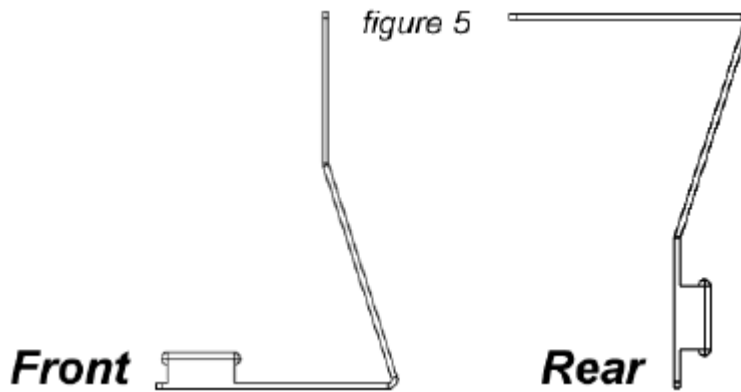
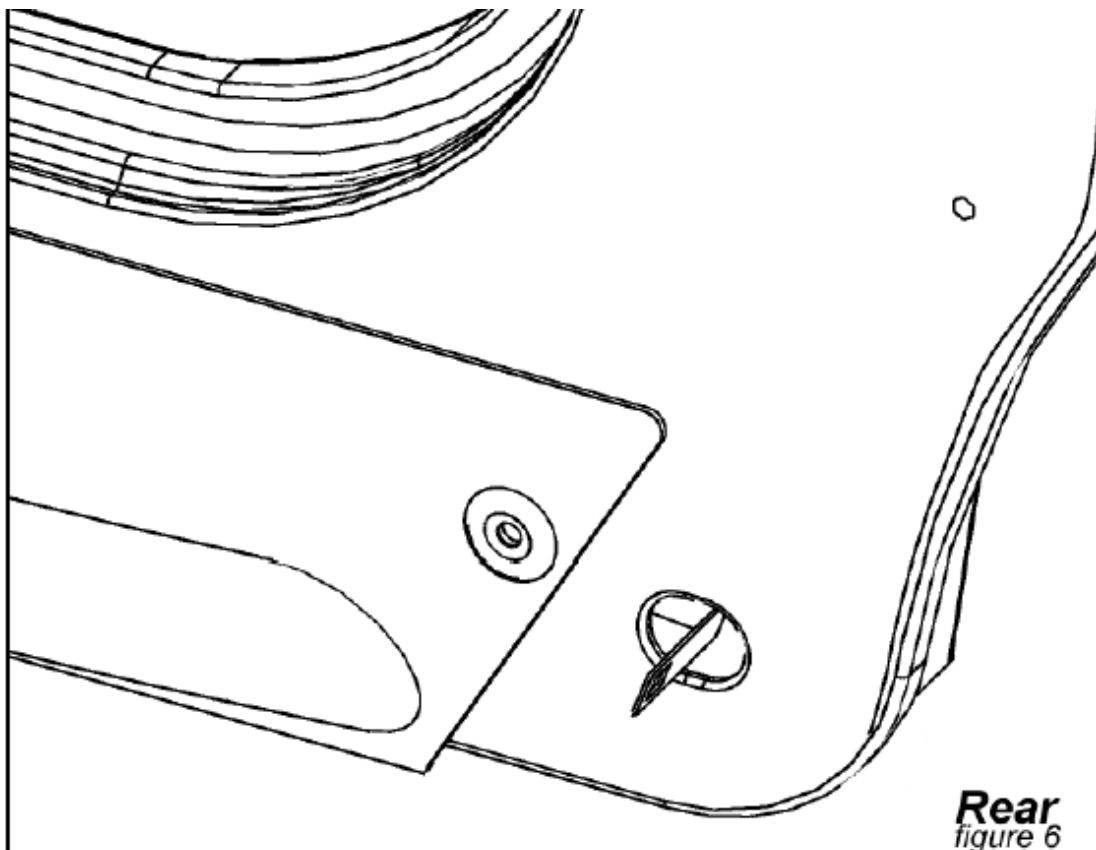

*figure 3*
*figure 4*
7. Re-install the guard. Put Neoprene washers on three of the M6x25 stainless button head screws, position them through holes #3, 4 & 5 (Fig. 3). Unsnap and pull carpet away, then place the appropriate internal bracket (Fig. 4) and install three M6 flat washers, and the three M6 Nyloc nuts. Tighten until the neoprene is compressed and the bolt is tight.